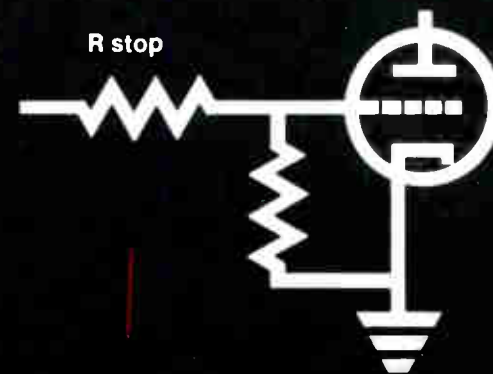

Fig. 15
1. All grounding should be to a good earth ground such as a metallic cold water pipe or 8' ground rod. Ground leads should be as short as possible. Remember, a DC ground may appear as an open circuit to **RF** energy. Ground leads should be of as large a diameter wire as practicable. Finally, grounding of the chassis, shields of speaker leads, and other external connections should be made to a common point to avoid ground loops. (Ground loops are circuits that form a DC ground, but contain **RF** circulating currents.) Figure 15 shows the correct and incorrect methods of grounding components.
3. A grid-stopping or "swamping" resistor can also be employed. A resistor, ranging in value from 1 k to 75 k ohms, can be connected in series with the grid as shown in Figure 15.